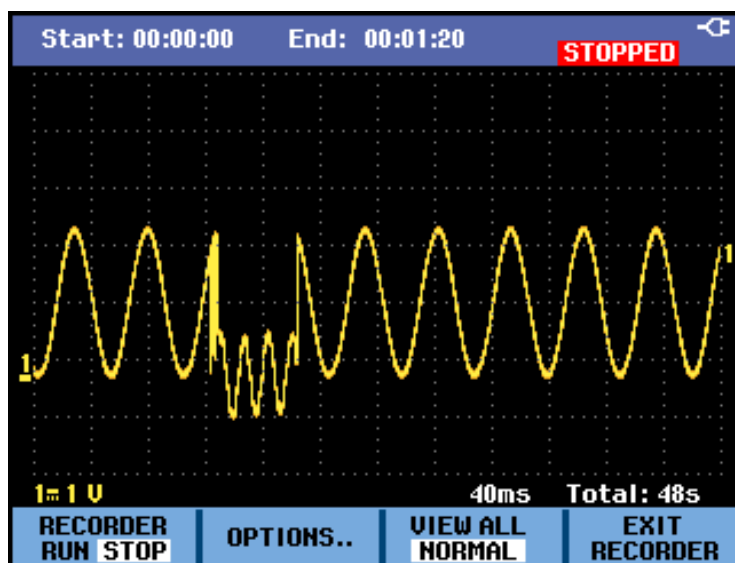

Figure 26: Recording waveforms using Scope Roll Mode
4. The waveform moves across the screen from right to left like on a normal chart recorder. Observe that the screen displays the time from start at the top and the status at the bottom of the screen, which includes the time/div setting and the total timespan that fits the memory. (See Figure 26.)